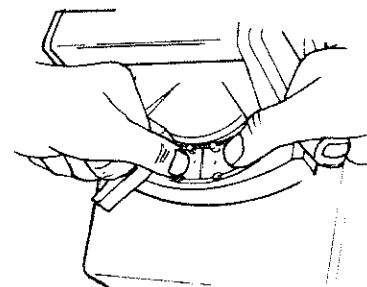

Fig. 60
19. Install bevel scale indicator by inserting one end into the opening in the yoke. Slide the indicator to one side and push until it snaps in place. Tabs are located on the outside of the opening. Adjust indicator by sliding red line to 0° position. (Figure 60)